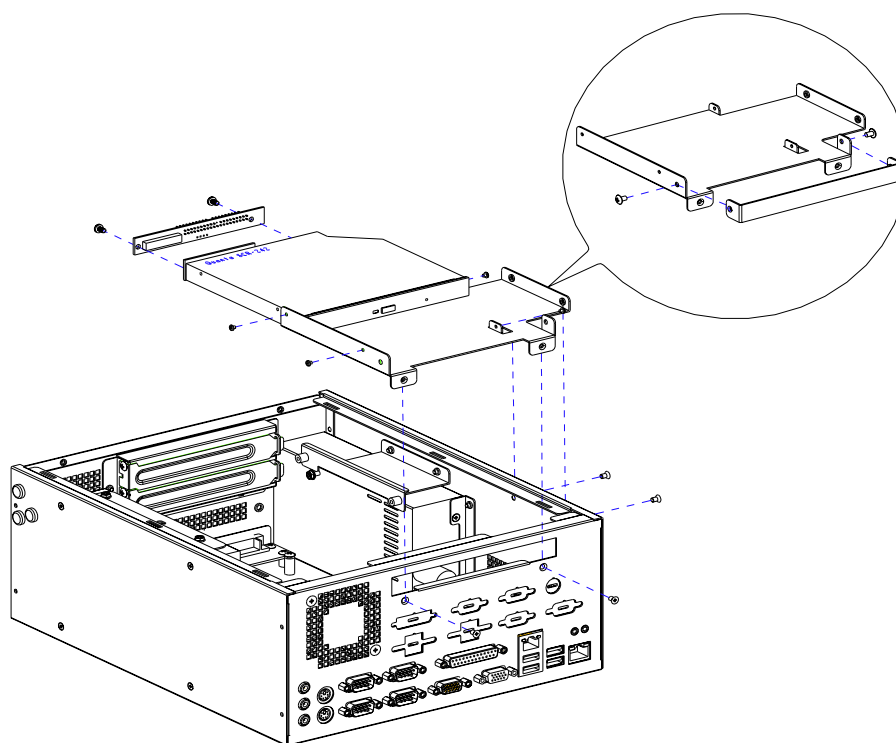

Figure 2.7 Install a slim-type optical disk drive into the chassis
1. Undo the two screws on the front plate to remove the slim-type ODD bracket (Figure 2.7).